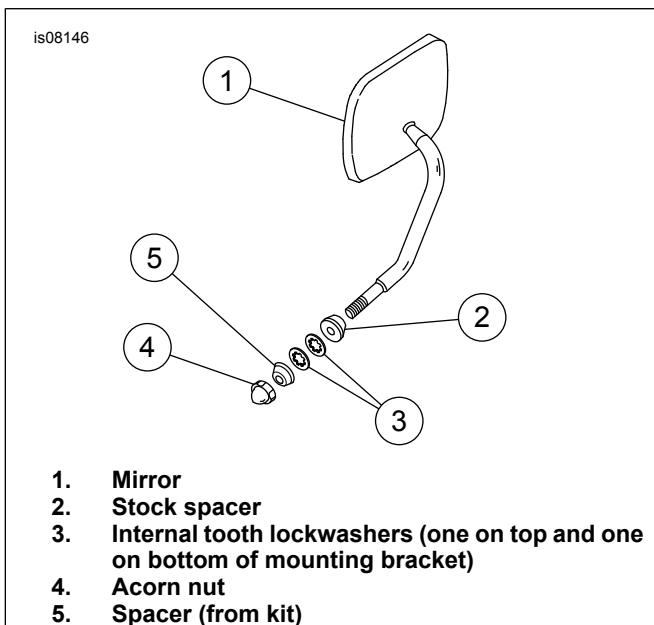

Figure 2. Installing Right Mirror
- f. See Figure 2. Install acorn nut from kit to retain right mirror. If acorn nut "bottoms" without tightening, add the second spacer from kit in the location shown.